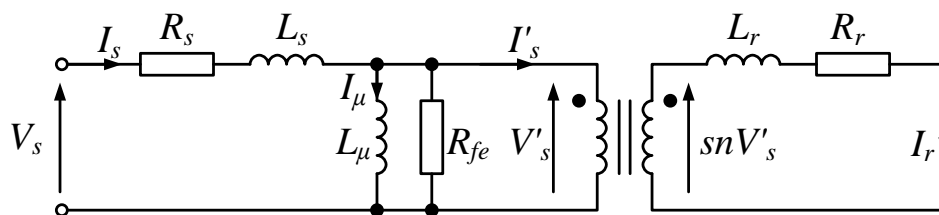

Figure B1
- a) In a squirrel cage induction motor, explain why no torque is produced if the rotor is rotating at exactly synchronous speed. (4)
- b) (i) With reference to the full equivalent circuit of an induction motor shown in Figure B1, explain why a very high current is drawn from the supply when the motor is started from rest. (3)
- (ii) What potential problems can this high starting current cause? (2)
- (iii) stable generator operation. (5)
- (i) How many pole-pairs is this motor likely to have? (1)
- (ii) What will be the frequency of the voltages and currents on the rotor? (1)
- e) If it is necessary to control the speed of an induction motor, discuss how this could be achieved. (4)